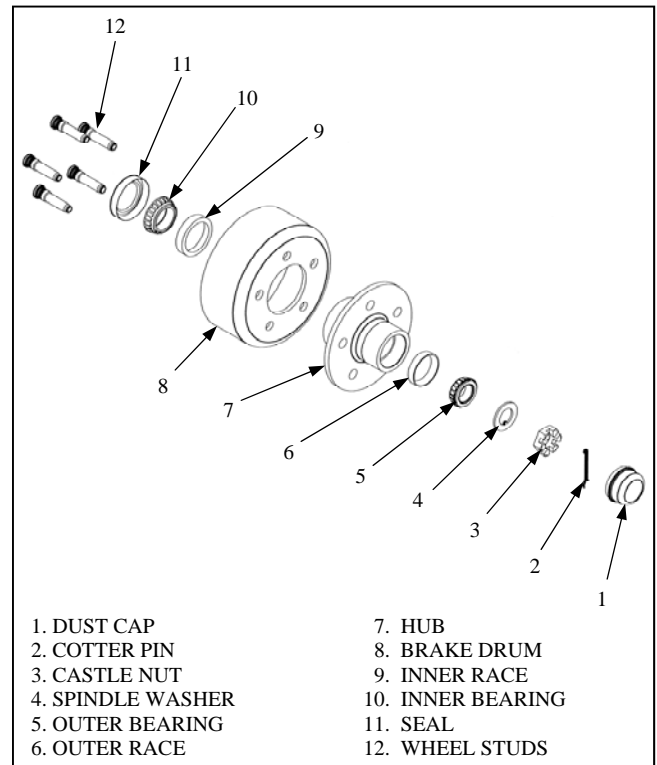

Figure 5-17. Rear Hub and Brake Drum
5.3.9.2 Rear Hub / Brake Drum Assembly. To remove the rear hub and brake drum assembly, follow the maintenance steps in Paragraph 5.3.9.1 before beginning the next steps. See Figure 5-17.
- a. Remove dust cap (1) by lightly tapping with a rubber hammer.
- b. Remove cotter pin (2), castle nut (3), and washer (4).
- c. Grasp front hub (7) and drum (8). Pull outward firmly. Ensure that bearing (5) doesn't fall from hub and strike the ground.
- d. Remove bearing (5), seal (11), and bearing (10) from the rear hub (7).
- e. Using a suitable H-frame press, remove bearing races (6) and (9).
- f. Remove drum (8) by pressing out wheel studs (12) in suitable H-frame press.